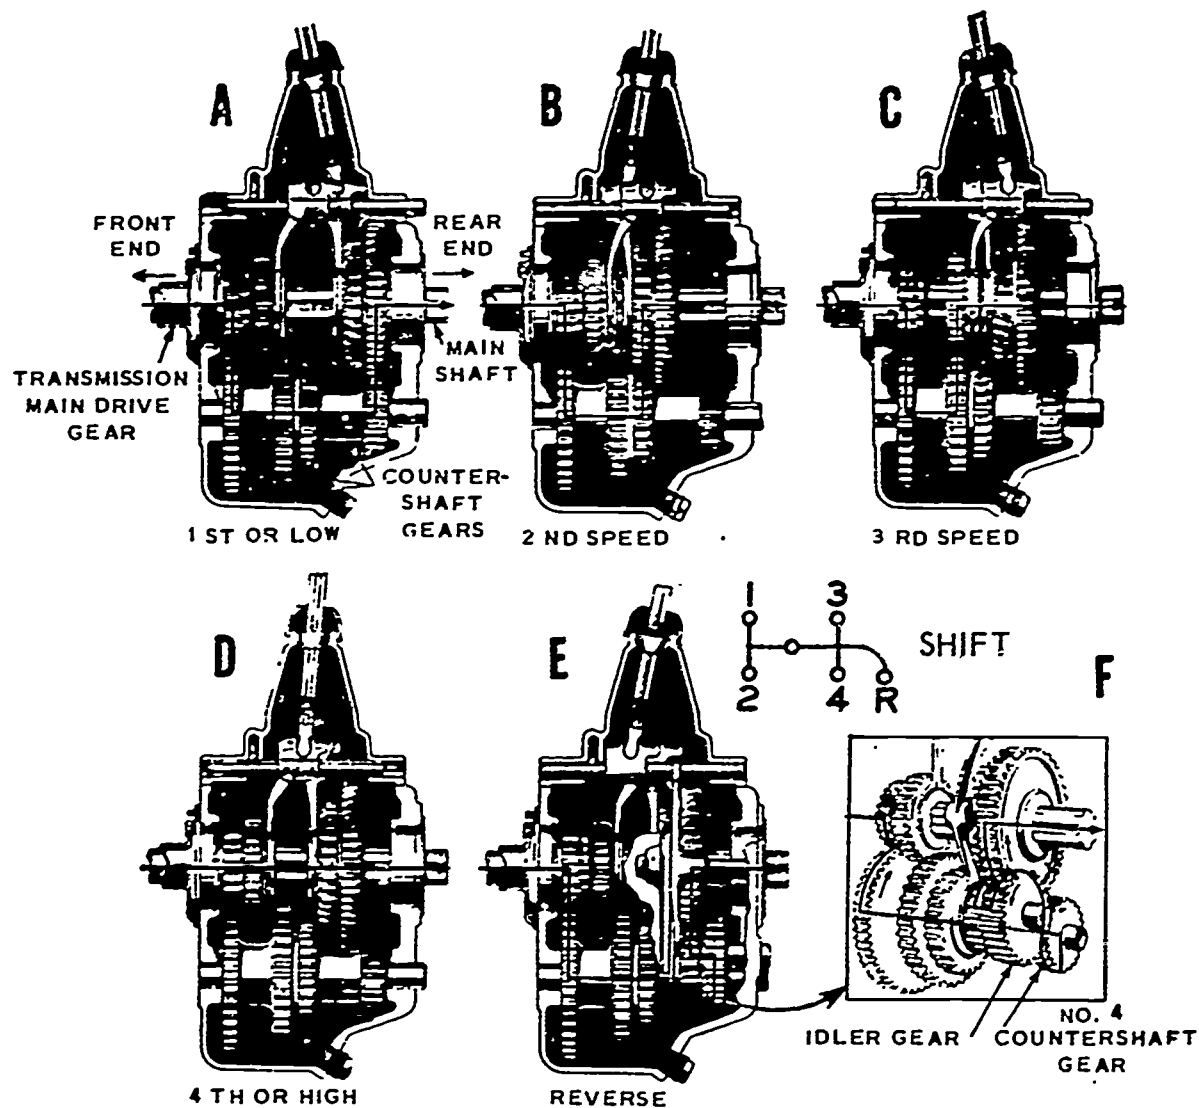

Fig. 17 Power flow through a four-speed transmission.
The gear shift lever positions shown in Figure 17 are typical of most four-speed truck transmissions. The gear shift lever, shown at (A), (B), (C), (D), and (E) in Figure 17 changes the position of the two shifting forks, which slide on separate shafts secured to the transmission case cover. Follow the separate diagrams to learn what takes place in shifting from one speed to another. For example, as you move the top of the gear shift lever toward the forward left position, the lower arm of the lever moves in the opposite direction to shift the gears. The fulcrum of this lever is in the transmission cover.
When you shift from NEUTRAL to FIRST or LOW speed (see Figure 17 (a)), the smallest countershaft gear engages with the largest sliding gear. LOW gear moves the truck at its lowest speed and maximum power. An arrow indicates the flow of power from the clutch shaft to the propeller shaft.
The SECOND speed position is obtained by moving the gear shift lever straight back from the LOW speed position. As mentioned before, you will use the clutch when shifting gears. In Figure 17 (b), the next to the smallest countershaft gear is in mesh with the second largest gear. The largest sliding gear (shift gear) has been disengaged. The flow of power has been changed as shown by the arrow. The power transmitted to the
In shifting from the SECOND speed to the THIRD speed position, you move the gear shift through the neutral position. This is done in all selective gear transmissions. From the NEUTRAL position the driver can select the speed position required to get the power he needs. In Figure 17 (c) notice that the gear shift lever is in contact with the other shifting fork, and that the forward slide gear has been meshed with the second countershaft gear. The power flow through the transmission has again been changed, as indicated by the arrow, and the truck will move at an intermediate speed, between SECOND and HIGH.
FOURTH or HIGH speed position is obtained by moving the top of the shift lever back and to the right from the NEUTRAL position. In the HIGH speed position, the forward shift or sliding gear is engaged with the constant speed gear as shown in Figure 17 (d). The clutch shaft and the transmission shaft are now locked together and the power flow is in a straight line. In HIGH, the truck propeller shaft revolves at the same speed as the engine crankshaft, or at a 1 to 1 ratio.
You shift to REVERSE (see Figure 17 (e) (f)) by moving the top of the gear shift lever to the far right and then to the rear. Most trucks have a trigger (interlock) arrangement at the gear shift ball to unlock the lever so that it can be moved from neutral to the far right. There will be some variation from different makes of trucks, from the position of REVERSE and the type of interlock. The lock prevents unintentional shifts to reverse. Never attempt to shift into reverse until the forward motion of the vehicle has been completely stopped.